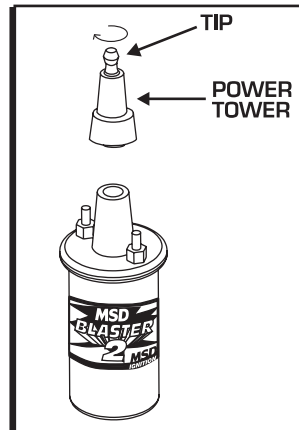

Figure 4 Installing the Power Tower.
4. Install the high voltage wire. If necessary, use the supplied Power Tower (Figure 4).
2. Push the screw head-end of the Power Tower into the coil (Figure 4).